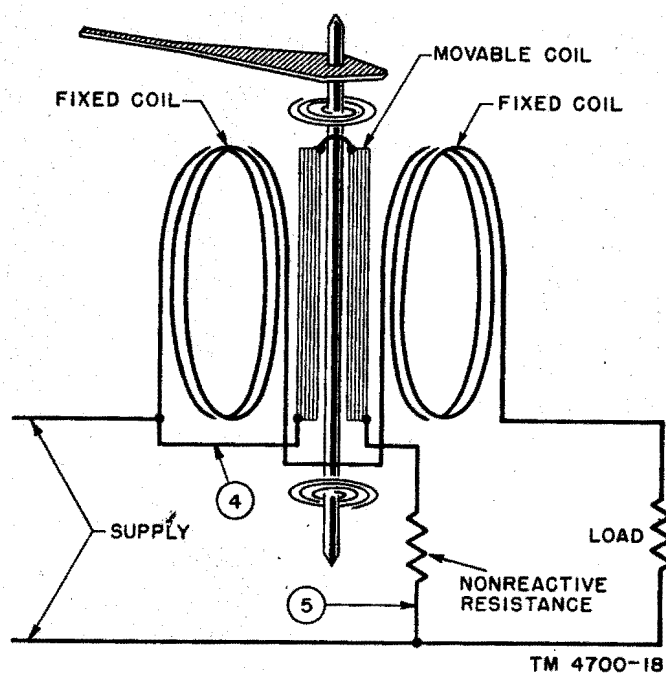

Figure 18. Electrodynamicometer-type wattmeter.
(1) It is often necessary to check the power consumption of various types of electrical equipment. In d-c circuits this is comparatively simple; the unit of power, the *watt*, is the product of the voltage and the current (P (in watts) = E (in volts) $\times$ I (in amperes)). In a-c circuits, this relationship is true only when voltage and current are in phase. Since this in-phase condition seldom exists in practice, some other method must be used; the electrodynamicometer principle is applied, particularly in the portable type of wattmeter.
(2) If an electrodynamicometer-type wattmeter is connected in a circuit (fig. 18), the current in the fixed coils is the instantaneous load current, and the current in the movable coil is proportional to the instantaneous line voltage. Since the turning force on the moving coil is equal to the product of the current and the voltage, the instru-
(3) Certain precautions must be observed when a wattmeter is connected in a circuit. Do not exceed the current and voltage rating specified on the dial of the instrument. Always connect the moving element or potential coil (4, fig. 18) to the side of the circuit that contains the fixed coils (current coils.) This connection keeps the moving coil at the same potential as the fixed coils